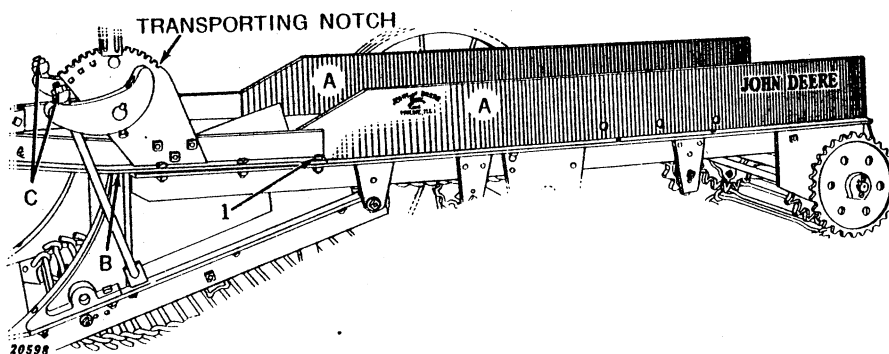
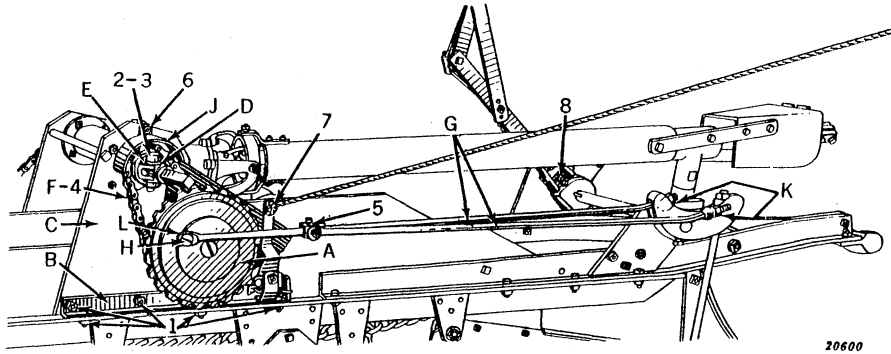

Figure 16
Figure 19
1. (Figure 16) Attach extension vine shields "A," as shown. The one-notched shield furnished is bolted to the right-hand side of the left-hand frame.
(Figure 16) Set lever in the transporting notch and adjust nuts "C" so the vine shields just miss the digger frame at "B."
1. (Figure 19) Bolt the power-lift gear case "A" and support "B" to the right-hand frame of the left-hand unit and support plate "C."
2. (Figure 19) Place large washer and square key on right-hand end of left-hand jackshaft. Remove square head set screw from universal joint "D." Before assembling the universal joint "D" onto the jackshaft, slip the lift drive sprocket "E" over the keyed end of the universal joint "D."
3. (Figure 19) Attach the universal joint with sprocket "E" on the right-hand end of the left-hand jackshaft and tighten set screw into the spot on the jackshaft.
4. (Figure 19) Attach power-lift drive chain "F" around the lift and drive sprockets with **THE COTTERED SIDE NEXT TO THE LIFT SUPPORT PLATES. THIS IS IMPORTANT!**
5. (Figure 19) Connect the lift rods "G" as shown.
6. (Figure 19) Attach power-lift shields "J" as shown. Hook the two parts of the guard together before attaching to digger.
7. (Figure 19) Fasten the trip rope to the trip arm and through the pulley on the lever of the right-hand unit.
8. (Figure 19) Place the digger levers in transport notch of sector (see Figure 16, page 17). Place the lift in transport position as shown at "L." Then adjust acorn nuts to seat in the socket of lift casting at "K."